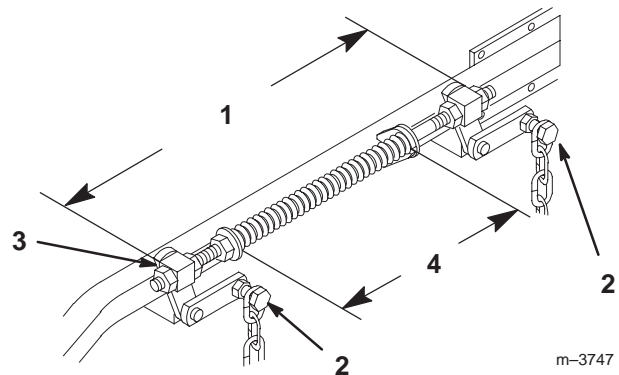

Figure 53
6. Loosen four (4) top chain bolts in slots. Check the length of the rod/swivel assemblies. Distance from outside of rear swivel to outside of front swivel should be 19-17/32" (496 mm) (Fig. 53). Make sure that all four swivels move freely in holes.
8. Lift up on four (4) top chain attachment bolts, in the slots, to take slack out of chains and tighten flange lock nuts. (Deck is still supported by two rear and one front blocks under mower.)
2. Springs are compressed so the distance between the two large washers should be 11" (279 mm) (Fig. 53).
3. Adjust by turning nut in front of each spring (Fig. 53). Clockwise will shorten spring; counter-clockwise will lengthen spring.